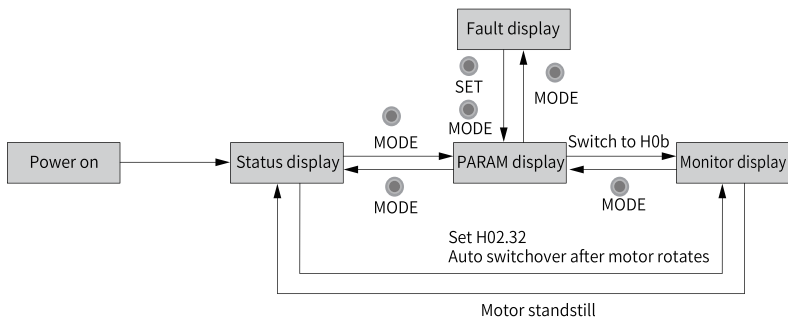

Figure 1-2 Switchover among different display modes
- Press MODE to switch among different display modes based on the conditions shown in "Figure 1-2 " on page 15.